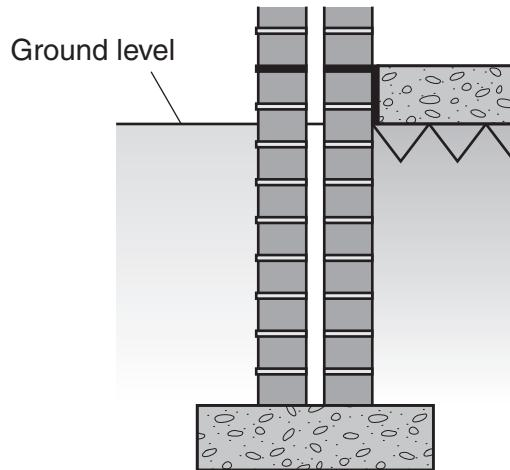

Fig. 1
Fig. 1 shows a foundation.
- (a) Give **four** design requirements for the foundation shown in Fig. 1.